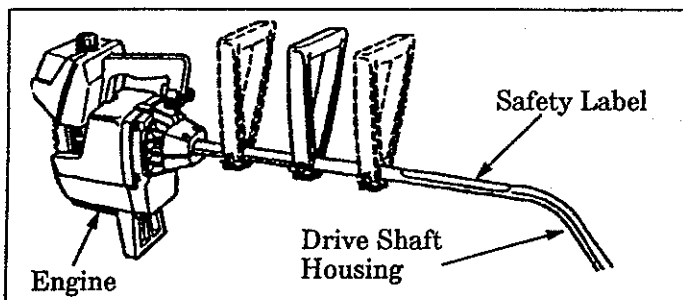

Figure 4
CAUTION: When adjusting the Assist Handle for comfort, be sure that the Assist Handle remains between the Engine and the Safety Label on Drive Shaft Housing. Figure 4 .
- Adjust Assist Handle up or down the Shaft Housing for comfort. Figure 4 .